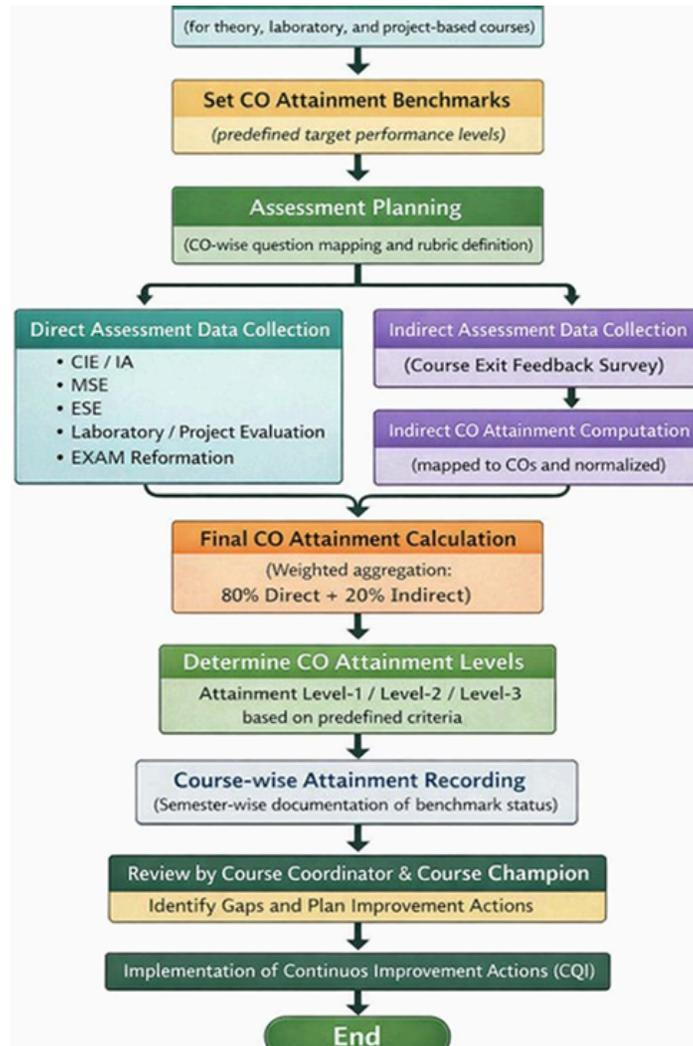

Fig. 3.7.2.a: Flowchart of assessment of course outcomes
The Civil Engineering Department at MITAOE systematically records Course Outcome (CO) attainment for all theory, laboratory, and project-based courses using a structured methodology aligned with predefined benchmarks. CO attainment is evaluated using both Direct and Indirect assessment methods. Direct attainment is computed from student performance in CIE/IA, MSE, ESE, and laboratory/project evaluations using CO-wise question and rubric mapping. Indirect attainment is obtained through Course Exit Feedback, mapped to respective COs and normalized as per institute practice. CO attainment levels are determined based on the percentage of students meeting the target performance and are categorized into predefined attainment levels. Final CO attainment is calculated using weighted aggregation of direct and indirect attainment (typically 80% direct and 20% indirect). Course-wise attainment summaries are recorded semester-wise, indicating benchmark achievement status. The attainment results are reviewed by the Course Coordinator and course champion and appropriate continuous improvement actions are identified and implemented for courses where benchmarks are not achieved. This entire process is presented through flowchart in Fig 3.7.2.a. The detailed attainment levels for course outcomes of every course is presented in Table 3.7.2b.